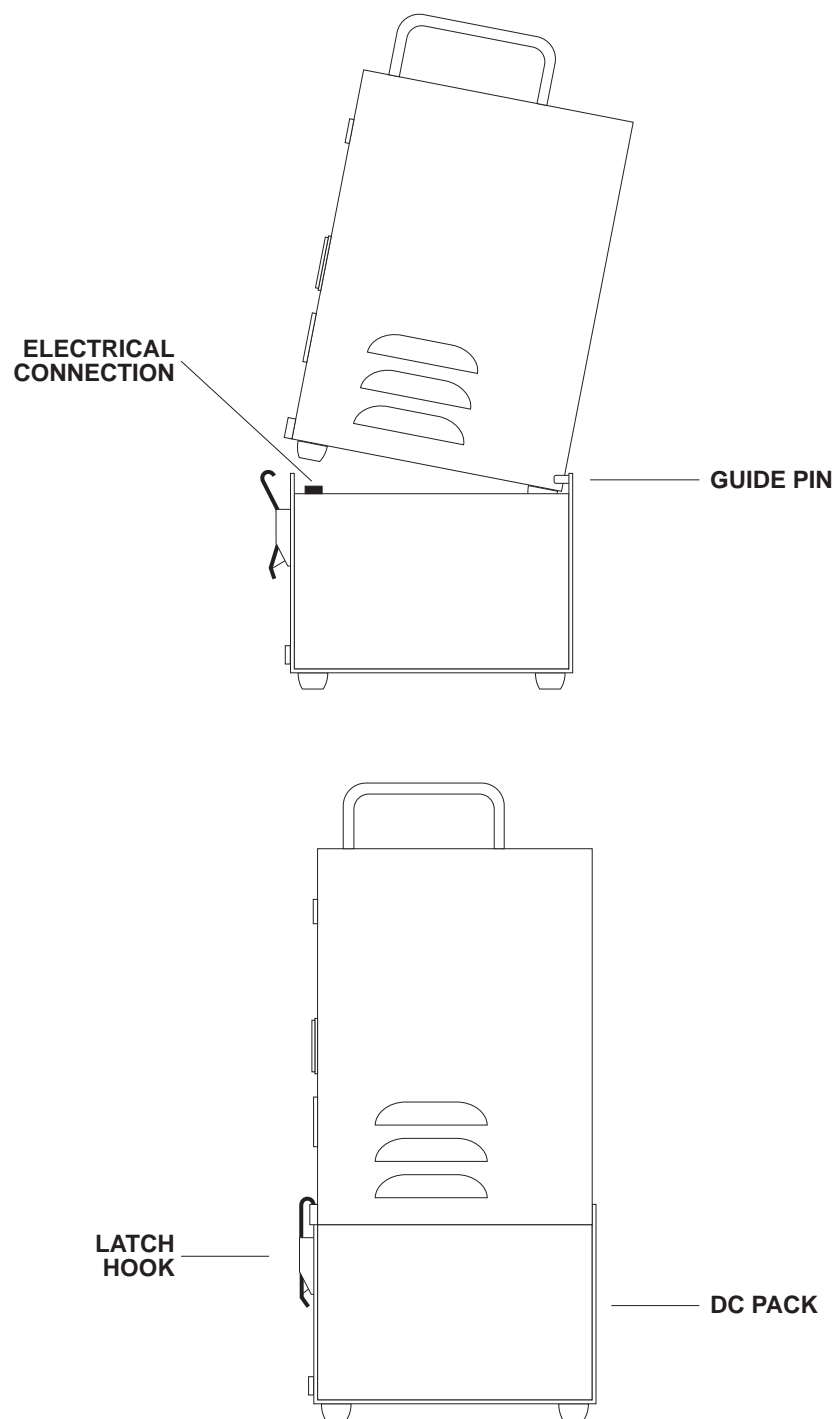

Figure 2.1
- 2) Tilt the sampler approximately 10°, as shown in Figure 2.1, and engage the female guide-pin receptacle into the guide pins of the Battery Pack or Power Module. Rotate the unit around the guide pins such that the back lip of the Battery Pack or Power Module slides over the recess on the back bottom of the sampler.